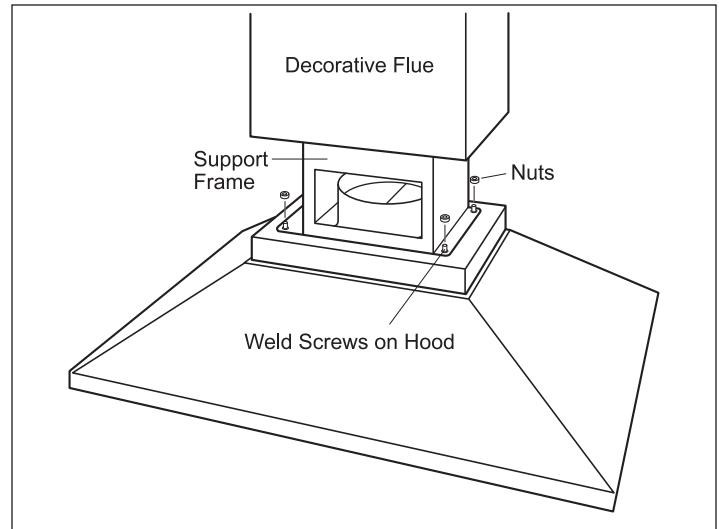

Figure 2-19 Mounting Hood to Support System
2. Mount the hood to the support frame by aligning the four weld screws on the hood to the four holes on the support frame. Use four nuts to secure the hood to the support frame. (See Figure 2-19).